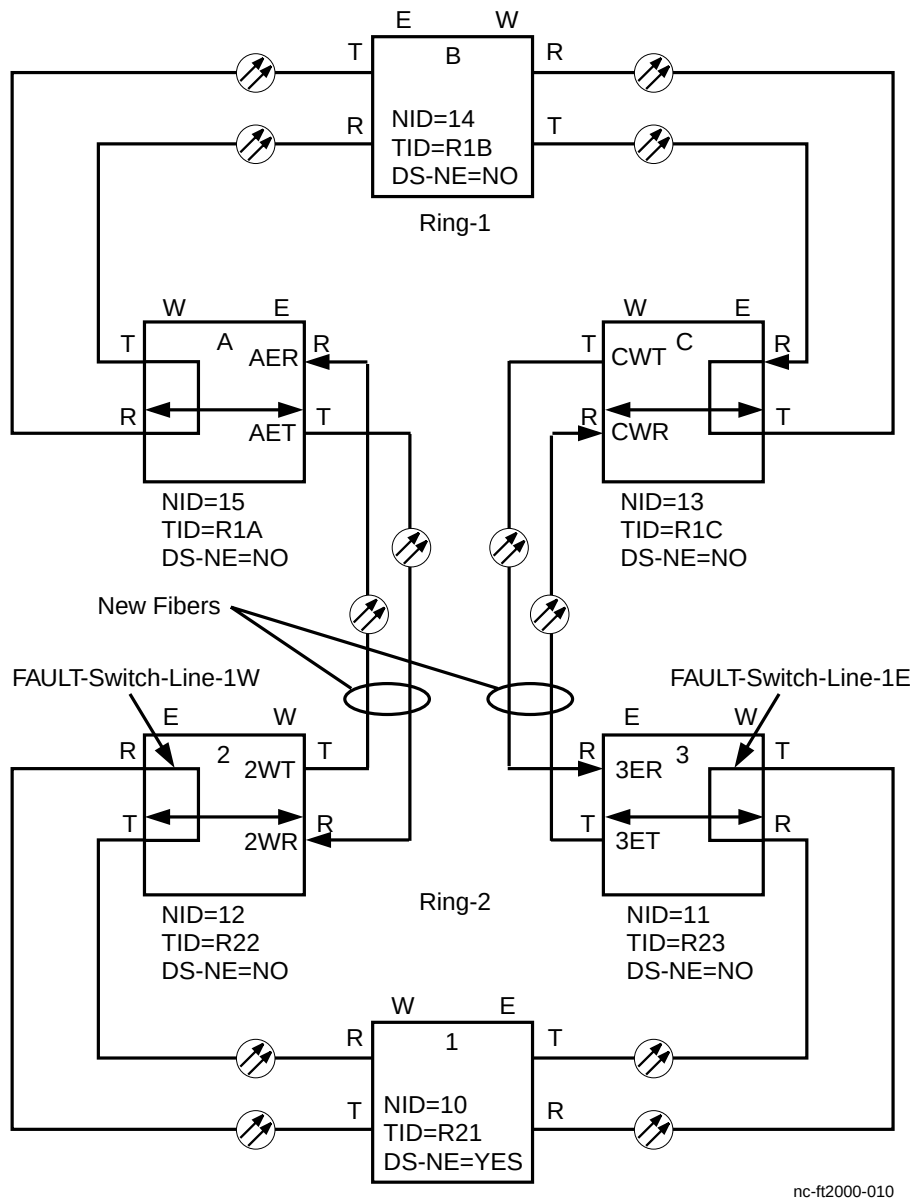

**Figure 6 – Example Depicting Ring With New Fibers Connected**
23. Instruct the installation/maintenance personnel, at node 2, to connect the new West transmit fiber (point 2WT). Refer to the example in Figure 6.
| 25. Instruct the installation/maintenance personnel, at node A, to connect the new East transmit fiber (point AET). Refer to the example in Figure 6.                                                                                                                                                                                                                                                            |                    |
| 27. Instruct the installation/maintenance personnel, at node 3, to connect the new East transmit fiber (point 3ET). Refer to the example in Figure 6.                                                                                                                                                                                                                                                            |                    |
| 29. Instruct the installation/maintenance personnel, at node C, to connect the new West transmit fiber (point CWT). Refer to the example in Figure 6.                                                                                                                                                                                                                                                            |                    |